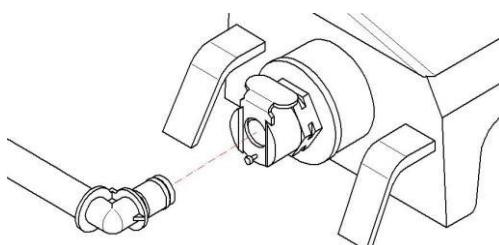

Fig. 1
- Do not forget to **connect the water pipe** by pressing it until you hear a "click" (Fig. 1).
- Mount only the small tank filled with liquid and make sure you have connected the water pipe by pressing until you hear the “click” (Fig. 1)